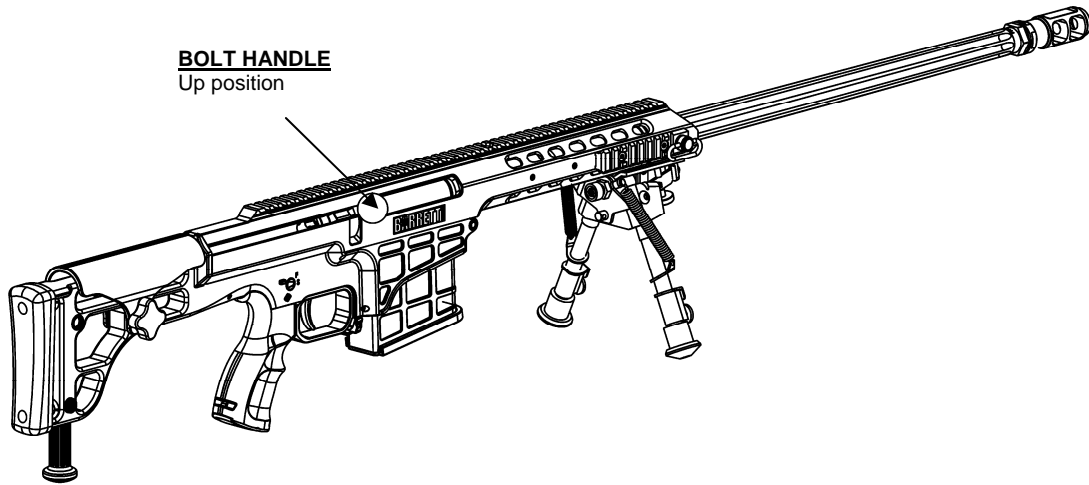

Figure 9.
2. Raise the bolt handle to the up position. (Figure 9)